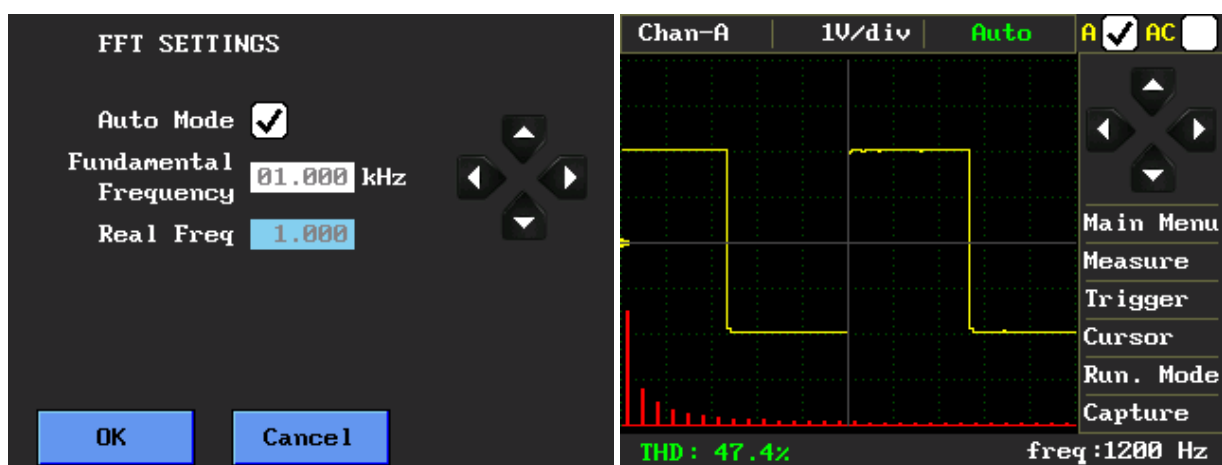

Figure 15. Square wave FFT analysis in auto mode
The 'Auto Mode' checkbox must be checked on the 'FFT settings' page in the 'Settings' menu in order to perform analysis in automatic mode. When operating in FFT analysis mode with automatic mode, the horizontal sensitivity section (3) is disabled and called as 'Auto' (Figure 15).